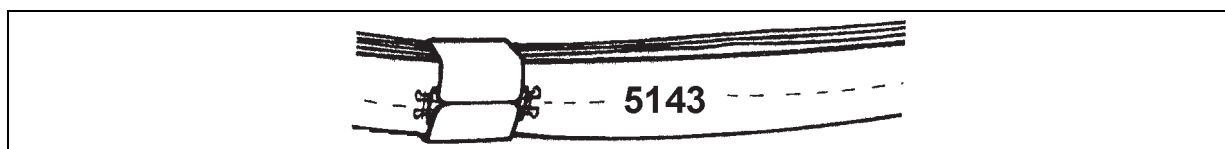

Figure 6-28. Sample of Inspection Date Marking
- Inspection.** The unit can conduct its own inspection. Each nylon and chain multileg sling must be marked with 1-inch letters showing the date that the set was first placed in use (figure 6-28). This means the first day the sling is used, not the day of issue. The marked date is used in determining when the next required inspection is due. Although the slings are routinely inspected before and after each use, they must be thoroughly inspected every 6 months.
If the sling is found satisfactory for further use, the old date is marked over and the new date applied. The date can be the calendar date or Julian date as shown in figure 6-28. The dates will be applied using either orange-yellow parachute marking ink, orange tube-type marker, strata blue parachute marking ink, or strata blue tube-type marker. If the old date was marked with strata blue, mark over the area with strata blue ink and apply the new date using orange-yellow ink. Do just the opposite if the old date was marked with orange-yellow ink. Only one date should appear on the sling. An alternate method for recording the inspection date is to attach a metal tag to the sling set to identify the last inspection date.